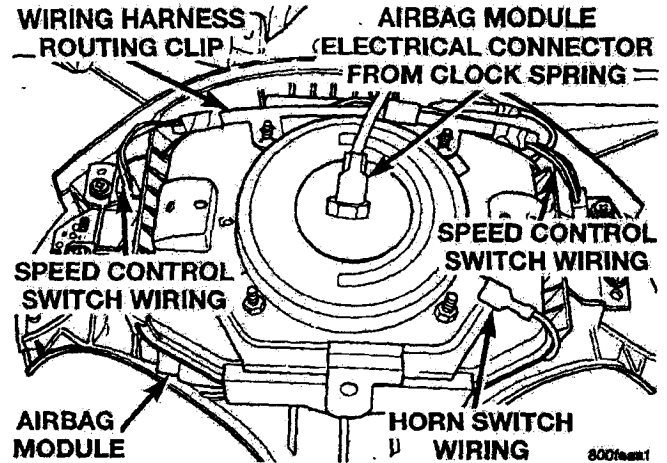

Figure 2
8. Disconnect the clockspring horn switch wire harness connector from the horn switch wire connector on the back of the airbag module (Figure 2).
9. Disconnect the clockspring airbag wire harness connector (Figure 2) from the back of the airbag module by firmly grasping and pulling, or gently prying, the connector.
10. Disconnect the clockspring wire harness connectors from the speed control switches and steering wheel mounted radio controls (if equipped) (Figure 2).
24. Connect the clockspring wire harness connectors to the speed control switches and steering wheel mounted radio controls (if equipped) (Figure 2).
25. Connect the clockspring airbag wire harness connector to the back of the airbag module (Figure 2).
26. Connect the clockspring horn switch wire harness connector to the horn switch wire connector on the back of the airbag module (Figure 2).